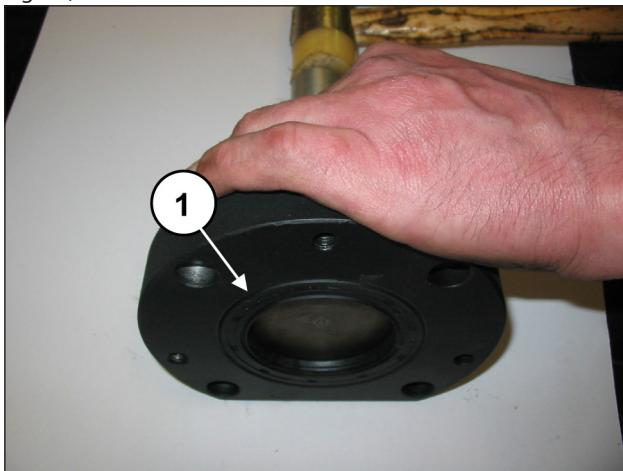

Fig. 28
Take out the radial seal ring (pos. ①, Fig. 28), the outside O-ring (pos. ①, Fig. 29) and the lubrication hole O-ring (pos. ①, Fig. 30).